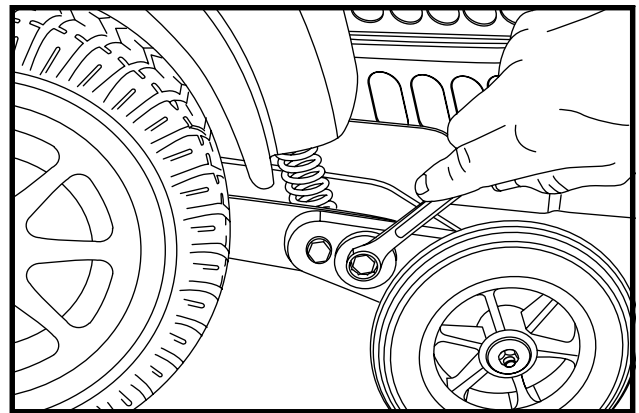

Figure 19. Anti-Tip Wheel Adjustment (Cam)
4. To adjust the anti-tip upward, turn the cam counterclockwise. To adjust the anti-tip downward, turn the cam clockwise. See figure 19.